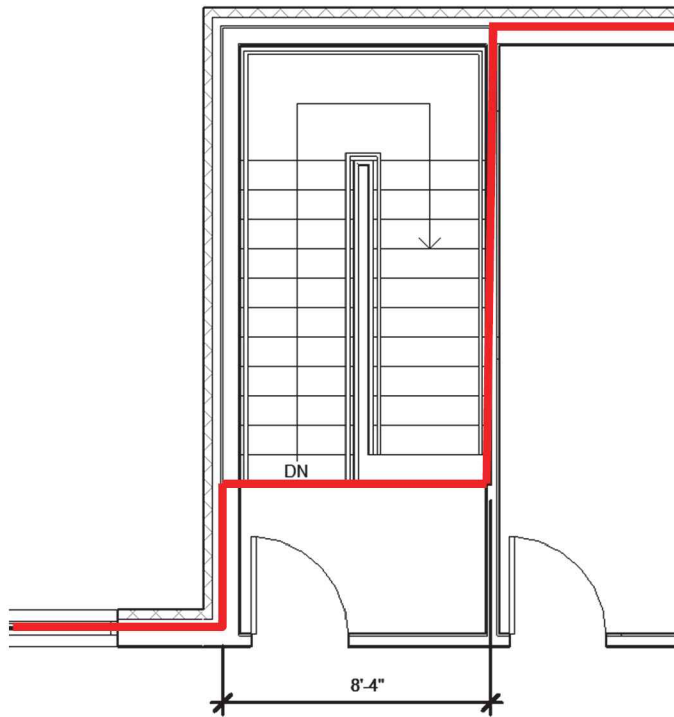

FIGURE 6-3.9
23. Zoom into the North stair, and make the edits shown in Figure 6-3.9.